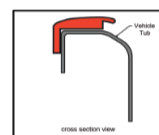

Figure g4
- Ensure the rear lengths (1000mm Long) of aluminium are positioned 5mm behind the rear of the sports bars and the notch is backward to rear. **See Figure g4**
- Using the drill templates, locate the templates along the bottom edge of alloy, mark the locations onto aluminium rail. **See Figure g4.**